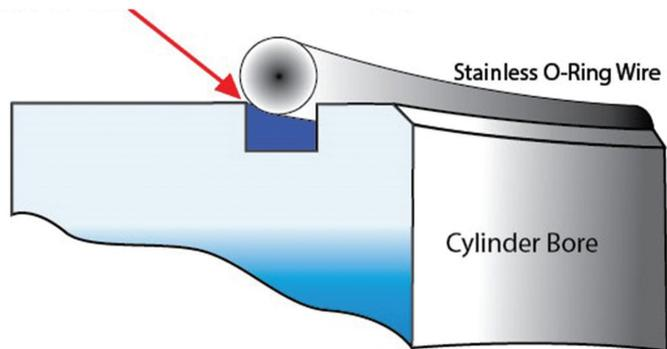

Figure 2 "Figure 8" O-Ring Example
3. If the combustion chamber or bore is so large that the O-ring s will be placed less than .100" apart between cylinders, it is advisable to use a "figure 8" pattern for O-rings (see Figure 2). This allows for more even clamp load over the entire head surface.